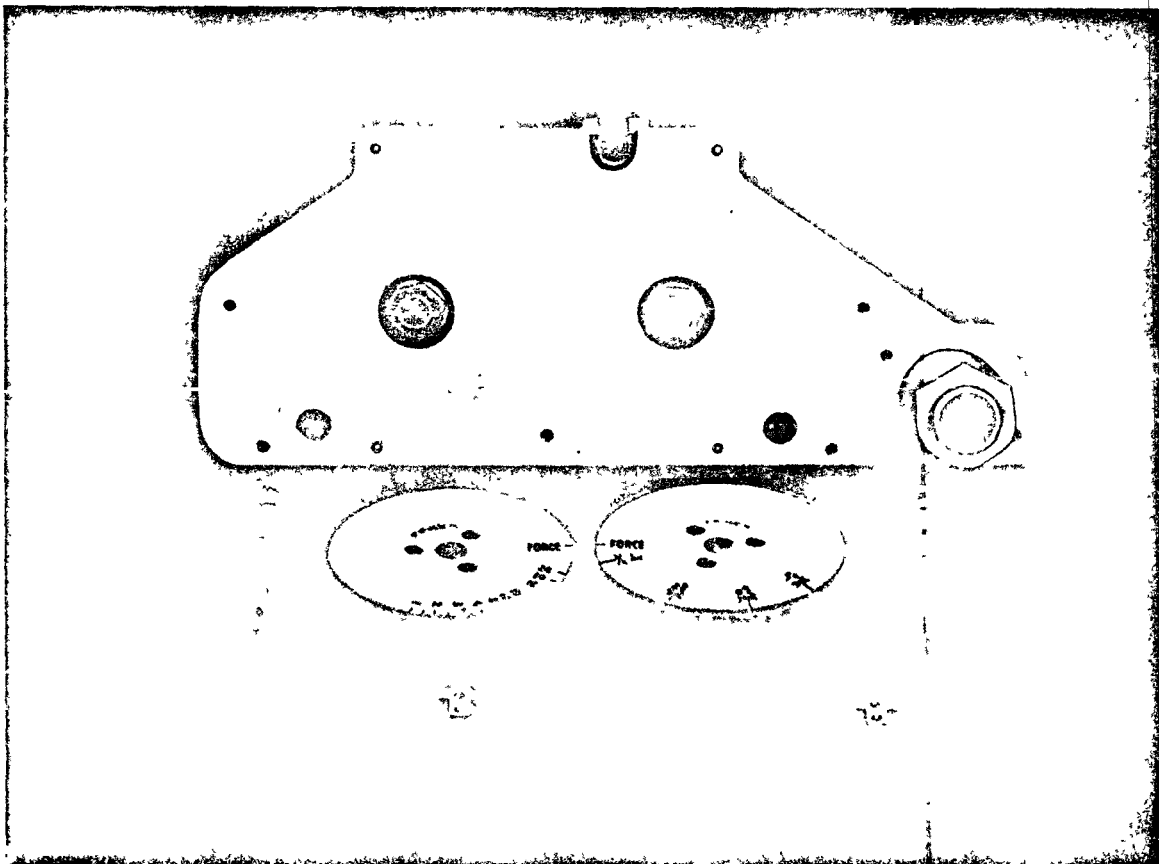
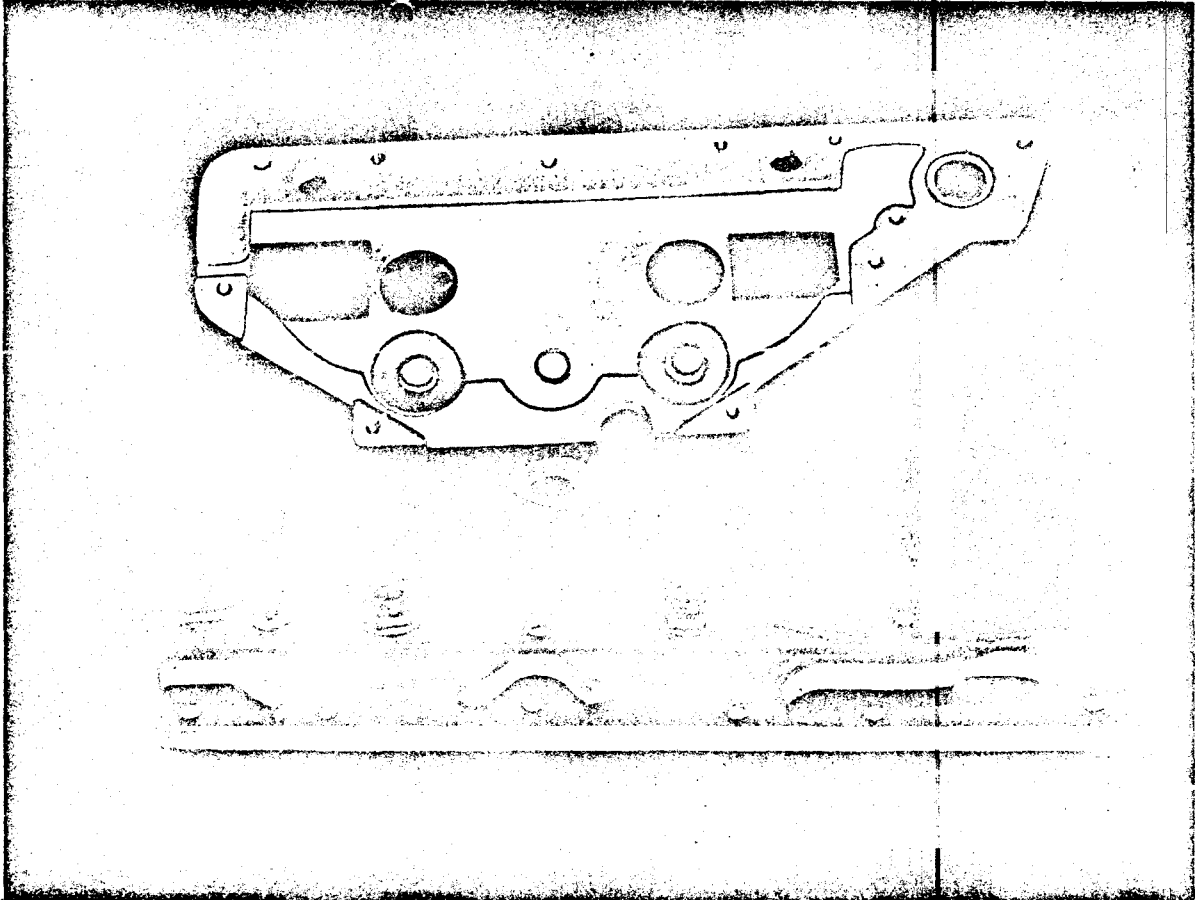

Fig. 2.2.4
Fig. 2.2.5
- (16) Loosen two Allen screws beneath dials on the attenuator.
- (17) Unscrew and remove control nut spindles. Lift off the dials.
- (18) Withdraw split pins under dials, and remove washers, and contact assemblies. See Figure 2.2.4.
- (19) Remove four 6 BA screws from beneath attenuator assembly.
- (20) Unsolder wire to output socket.
- (21) Lift off bottom casting (see Figure 2.2.5).
- (22) Remove screw from centre of the attenuator card, and remove card.